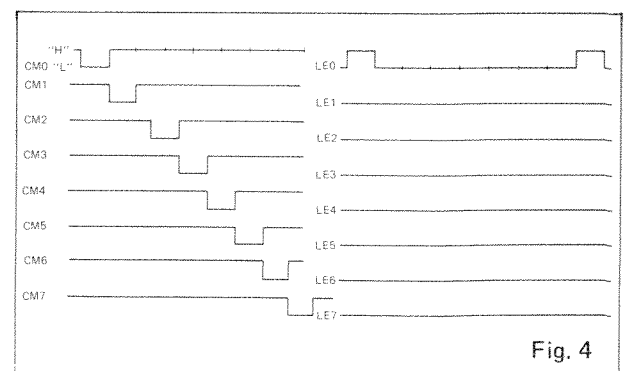

Fig. 4
⑦-1 The contents of bits 0 ~ 2 (D0 ~ D2 IC57) of the data written in address No. 50 of IC57 are decoded by IC60 and obtained in negative logic at CM0 ~ CM7. The data written in address No. 60 of IC56, on the other hand, is obtained at LE0 ~ LE7.
⑦-2 Waveforms as shown in Figure 4 should be obtained.
4. Waveforms as illustrated in Figure 4 should be obtained when Γ and NOISE are set to OFF and 10 respectively, with controls set to each specified position in item A-3.